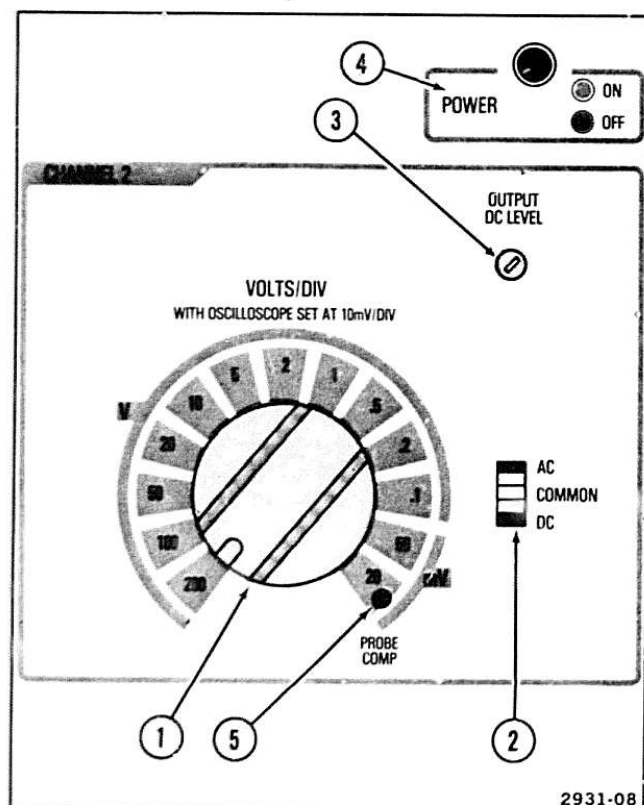

Figure 9. Front-panel controls and indicator.
Refer to Figure 9 for the location of items 1 through 5.